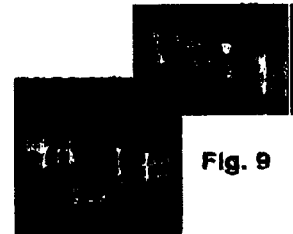

Fig. 9
8. Locate the master link in the chain and carefully unlatch the retainer clip and disassemble the master link and remove the chain from around the lower sprocket. (Fig. 9)